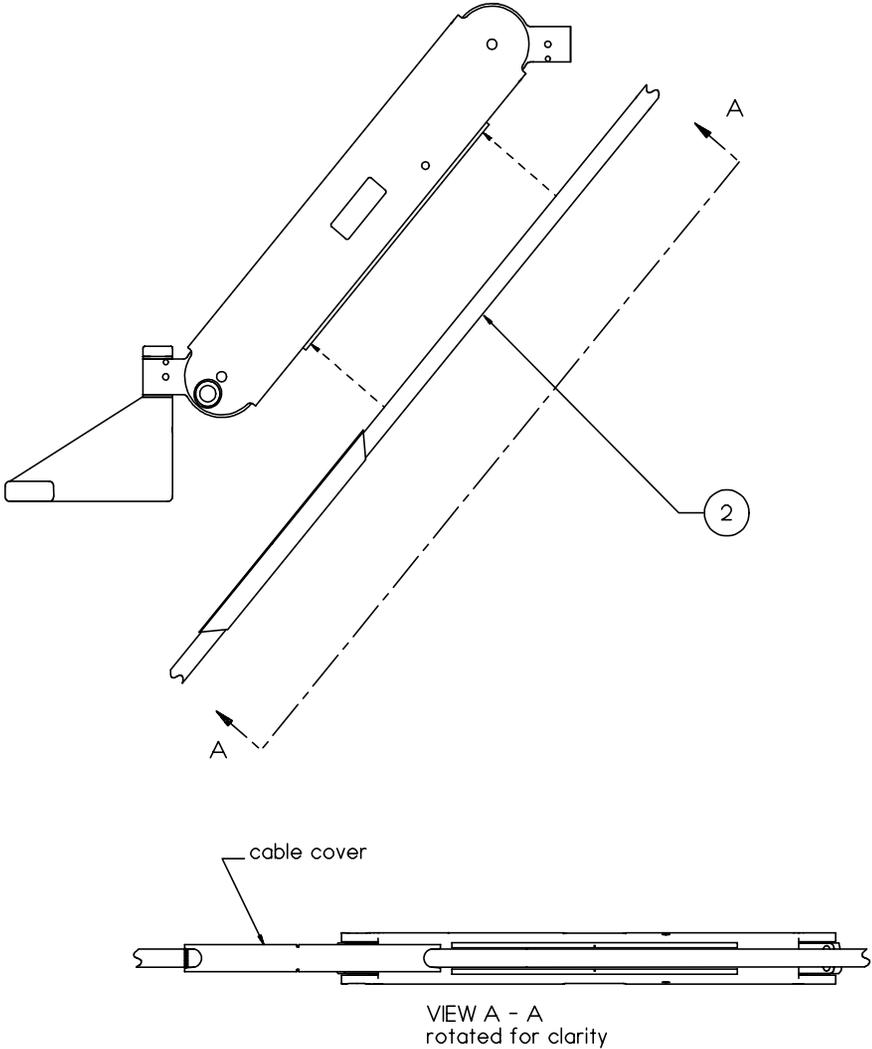

Figure 10
2. Place the section of cable extending immediately out from the front end of the Cable Cover into the track on the underside of the A-Arm. See Figure 10 (next page).